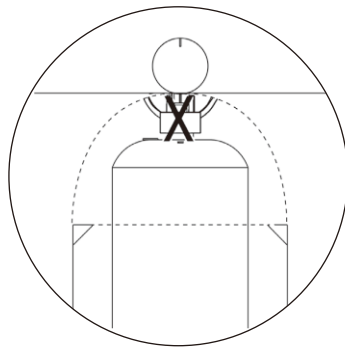

Figure 7
4. Please refer to diagram for proper installation (see Figure 7).